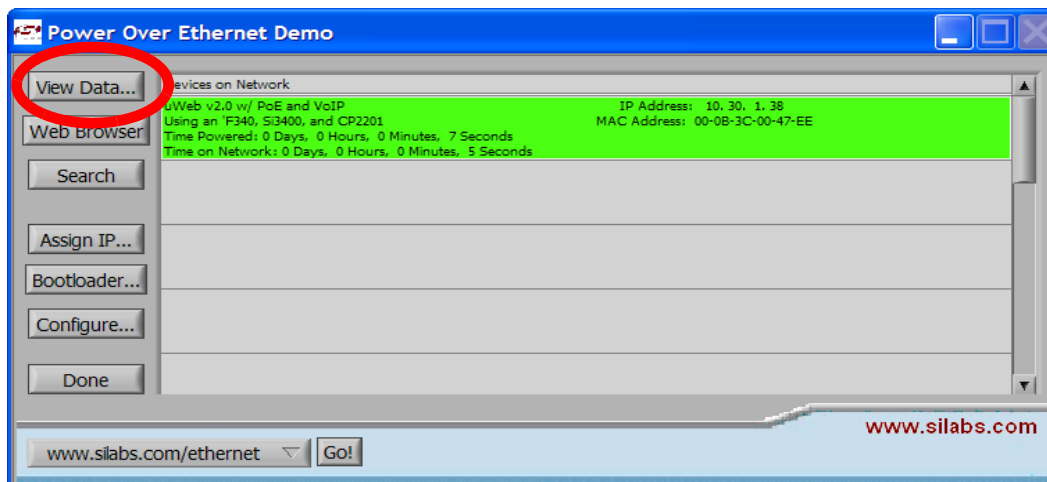

Figure 4. View Data Button
5. Press **Done** when the assignment is complete. Then click **View Data...** on the main panel as shown in Figure 4.